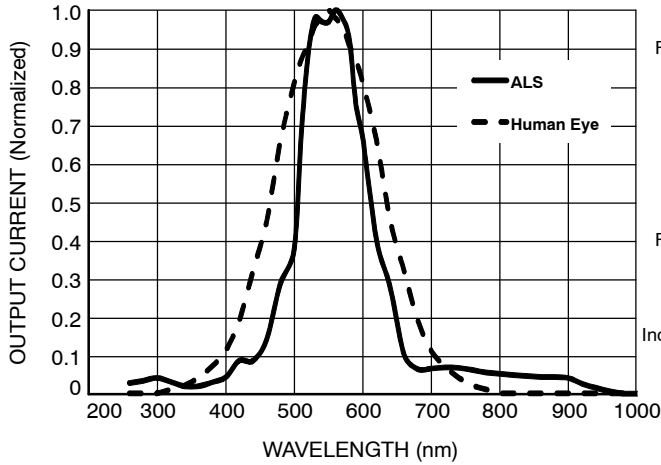

Figure 4. ALS Spectral Response (Normalized)
7. Refer to Figure 4 for more information on spectral response.
The ambient light sensor contained in the NOA3302 employs a second photo diode with its own proprietary photopic filter limiting extraneous photons, and thus performing as a band pass filter on the incident wave front. The filter only transmits photons in the visible spectrum which are primarily detected by the human eye. The photo response of this sensor is as shown in Figure 4.